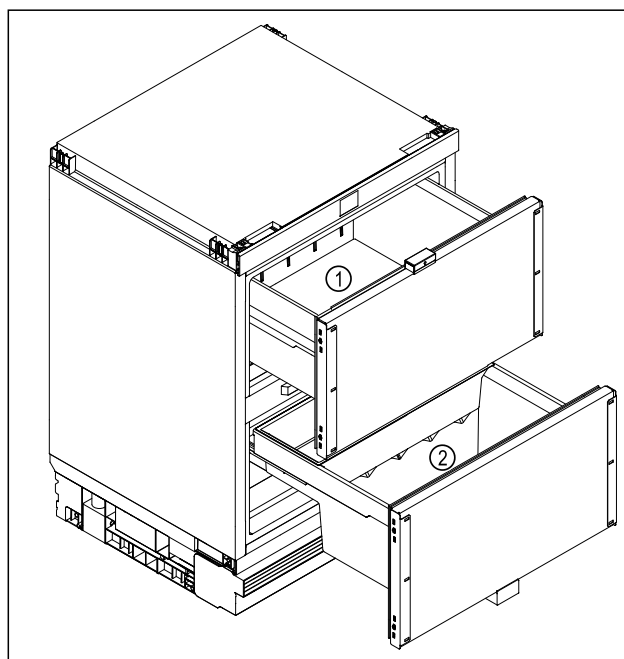

Fig. 7 Example illustration
- Upper telescopic unit *Fig. 7 (1)*: Store cold-sensitive foods, butter, cheese, tinned food.
- Lower telescopic unit *Fig. 7 (2)*: Store particularly perishable foods such as ready meals, fish, meat and sausage products fresh dairy products.